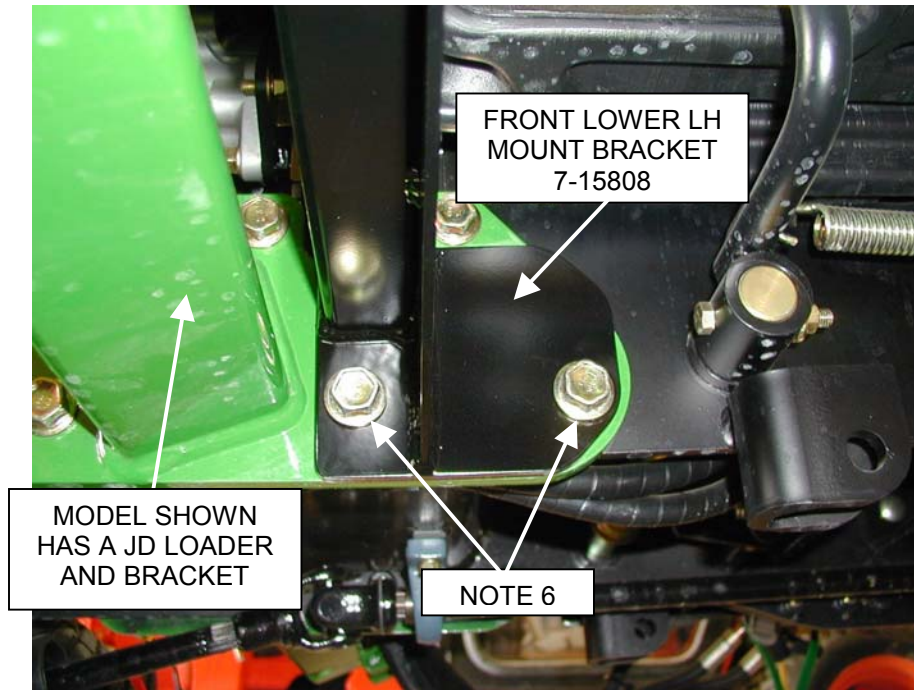

FIGURE 3
6. Assemble front lower mount brackets 7-15808 and 7-15809 to tractor frame by removing and re-using (4) loader mount bolts. If model is not equipped with a loader, use the (4) metric fasteners 3-12356, (4) 1/2" lock washers and (4) 1/2" flat washers from the mount kit. See figure 3. Torque to recommended specifications for loader mount bolts.